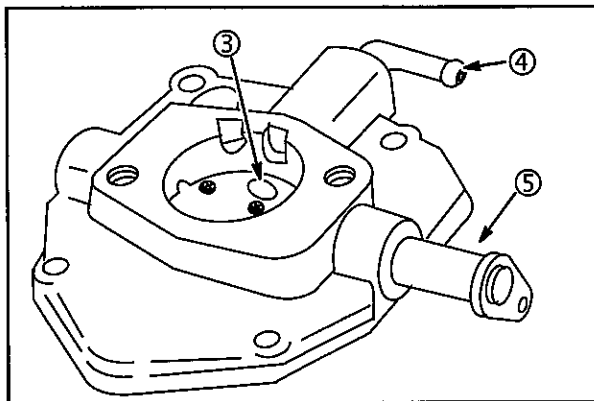

Fig. 86
5. Install choke shaft and spacer (5), **Fig. 86**.
6. Install choke plate (3) with vent hole facing bowl vent nipple (4).